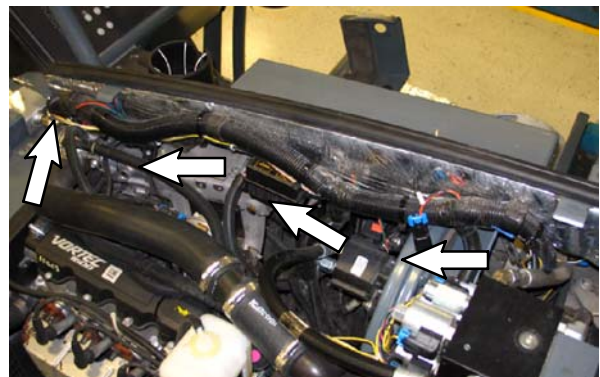

FIG. 7
28. Route the *ec-H20* harness along the bottom of the main wire harness and toward the front of the machine. Refer to Fig. 7.